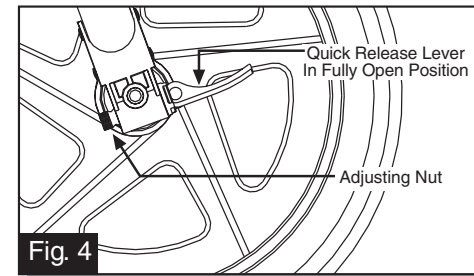

Fig. 4
- 4 REAR WHEEL:** Place the rear wheel quick release lever in the open position, as shown in Fig. 4. Insert the rear wheel's stub axle into the hole in the rear dropout. If the axle does not slide in easily, loosen the quick release adjuster nut (Fig. 4) by hand. Re-insert the axle fully into the rear dropout until the snap ring on the axle comes in contact with the dropout (Fig. 5). Move the quick release lever to the closed position (Fig. 6). The word CLOSE should be clearly visible and the quick release lever should be pointing up towards the seat. When properly adjusted, it will require considerable pressure (80-105 inch/pounds) to close the lever. If you do not feel this resistance (too loose or too tight), return the quick release lever back to the open position (Fig. 4), and adjust the adjusting nut (clockwise to tighten, counterclockwise to loosen). Move the quick release lever to the closed position (Fig. 6).